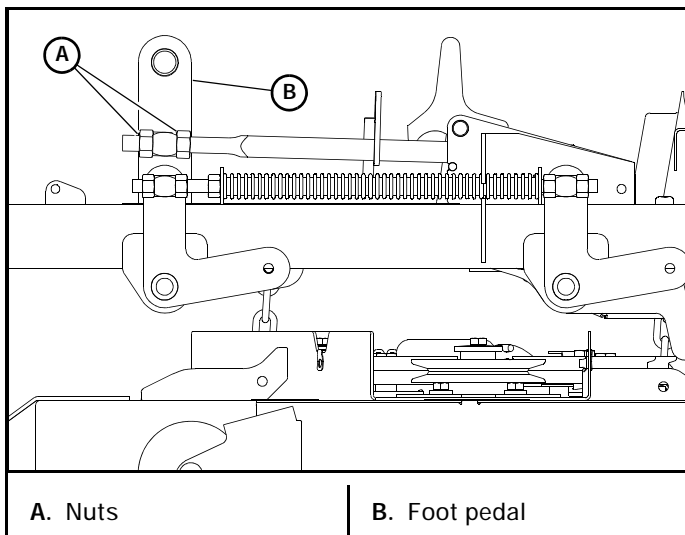
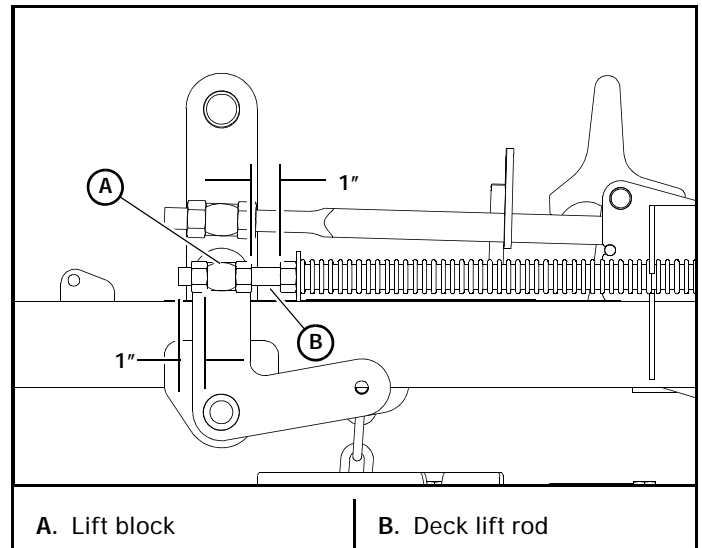
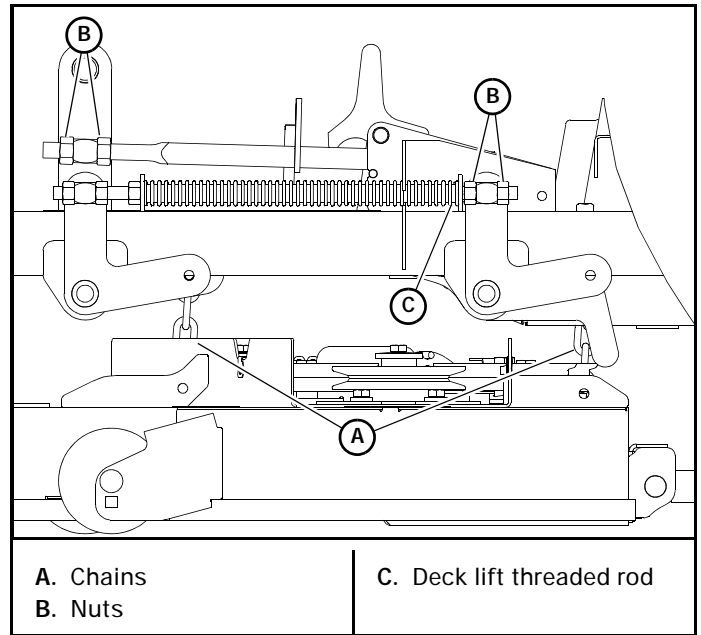

Figure 6-4
Figure 6-5
Figure 6-8
deck is sitting tightly on all four blocks. Figure 6-4, Figure 6-5 & Figure 6-8
7. Loosen the two nuts on the front of height indicator so that the foot pedal is free. Figure 6-4
9. Set the amount of threads protruding on the deck lift rod from the lift block at approximately 1" (25.4 mm) (left & right side). Figure 6-5
12. While keeping the chain tight, tighten the nuts against the deck lift block on the height indicator rod, just enough to carry most of the deck weight on that side — the block should be able to move with only a slight drag. Figure 6-5
24. Make sure that there is still slack in the chain. If not, loosen the two nuts on the block holding the threaded rod until there is slack in the deck lift chain. Figure 6-8
25. Tighten the appropriate nut until the chain just becomes tight, and carries most of the deck weight. Check by moving the block—it should move with a slight drag. Figure 6-8
spring and the rear nut on the deck lift block. Typical both sides. Figure 6-5